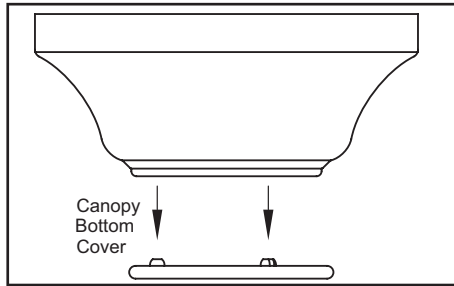

Figure 8
WHEN MOUNTING THE FAN ON A SLOPED CEILING, THE STANDARD BALL/DOWNROD MOUNTING METHOD MUST BE USED. THE MOUNTING PLATE MUST BE MOUNTED SO THAT THE SLOT OPENINGS ARE ON THE LOWER SIDE BY SLIDING THE MOUNTING PLATE FROM THE TOP DOWN. FOR A GREATER MOUNTING ANGLE, REMOVE THE DECORATIVE CANOPY BOTTOM COVER (FIGURE 8).
3. Remove the decorative canopy bottom cover from the canopy by depressing the three studs (Figure 8).